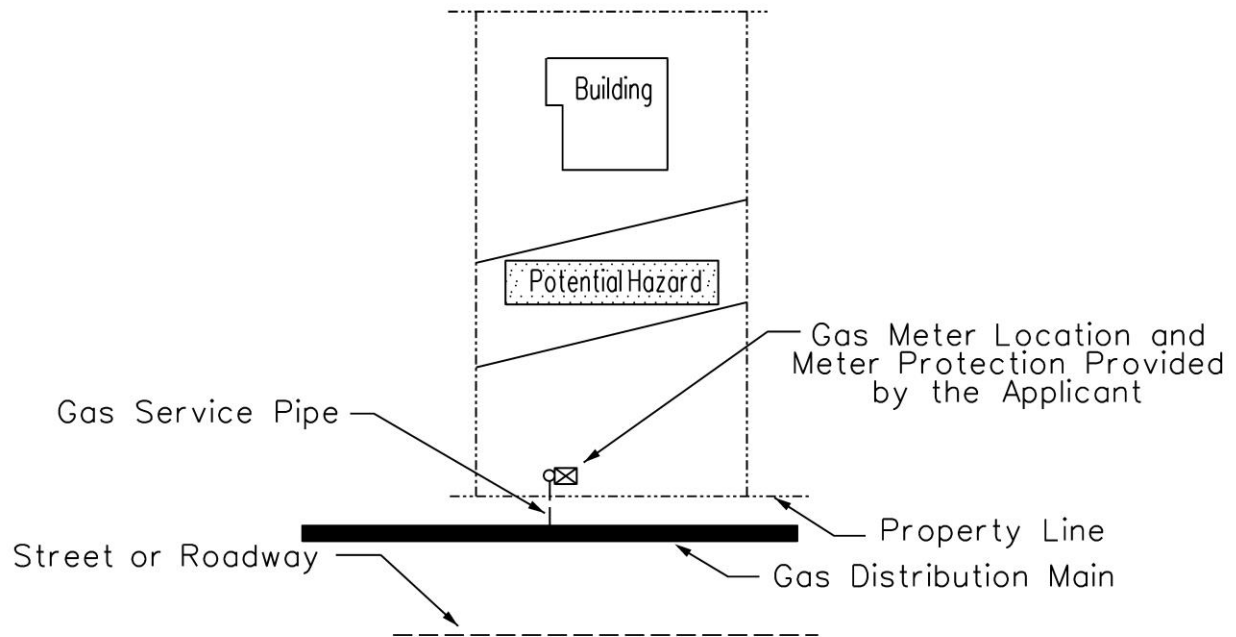

Figure 9. Property Line Installation
- (b) At the customer's property line, if a location exists where the meter set can be properly protected from damage by vehicles and anticipated damage. The service and meter set location must allow inspection for operation and maintenance activities. (See Figure 9.)
(2) Meter Set Accessibility